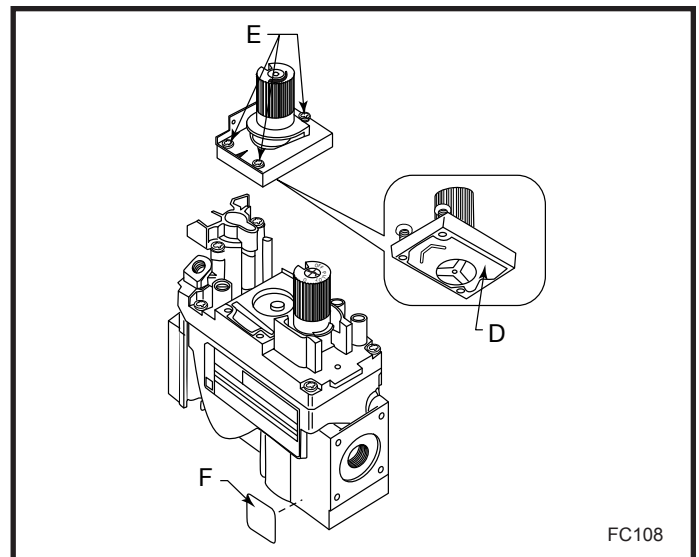

Fig. 62 Replace regulator.
14. Insure the rubber gasket (D) is properly positioned and install the new HI/LO pressure regulator assembly to the valve using the new screws (E) supplied with the kit. Tighten the screws securely. (Ref. torque = in/lb) (Fig. 62)
15. Install the enclosed identification label (F) to the valve body where it can easily be seen. (Fig. 62)